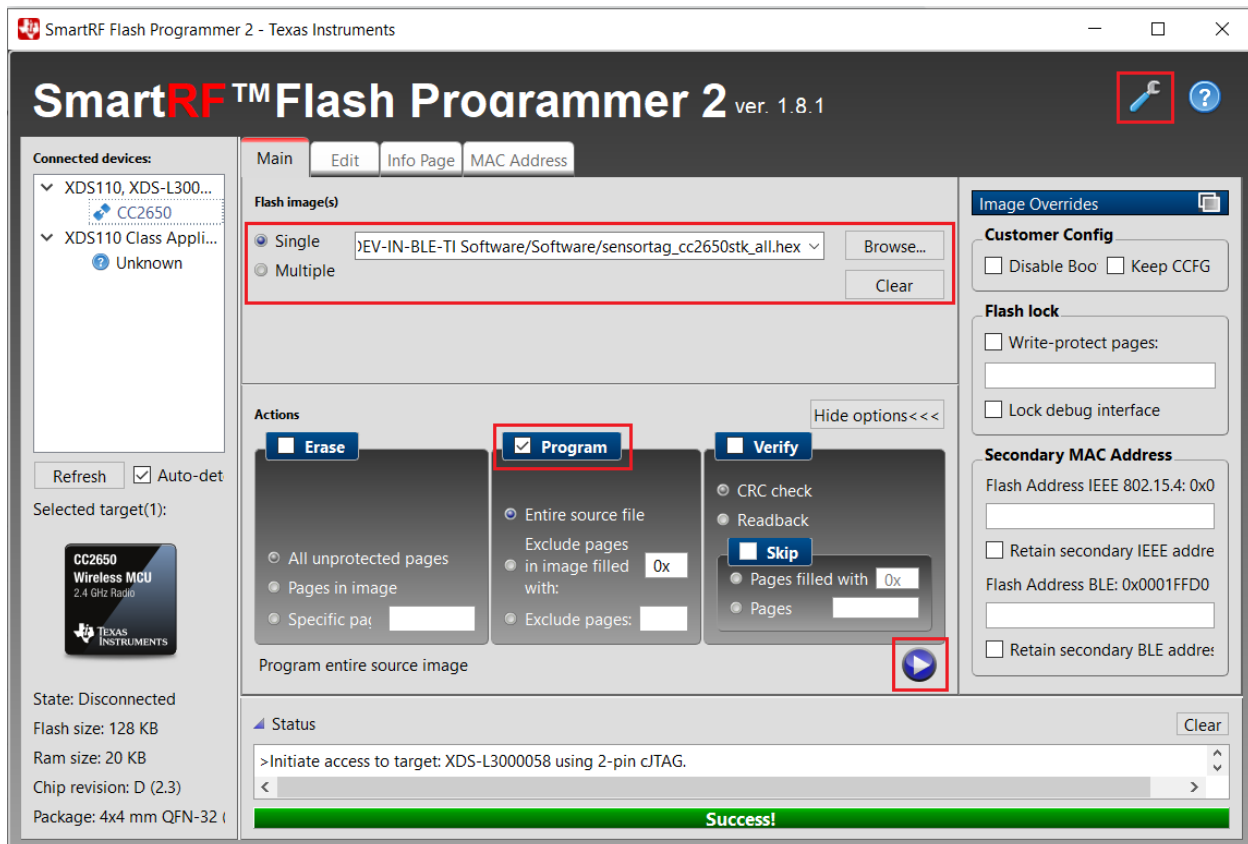

Figure 40, SmartRF Flash Programmer 2 Successful Operation.
- 3) When finished, open application to the 'Main' tab (Figure 40).
- 8) Navigate to the DEV-IN-BLE-TI Software folder in the provided Software and Resources Package. Select sensortag\_cc2650stk\_all.hex (Figure 40)
- 9) In the Actions list check Program. (Figure 40)